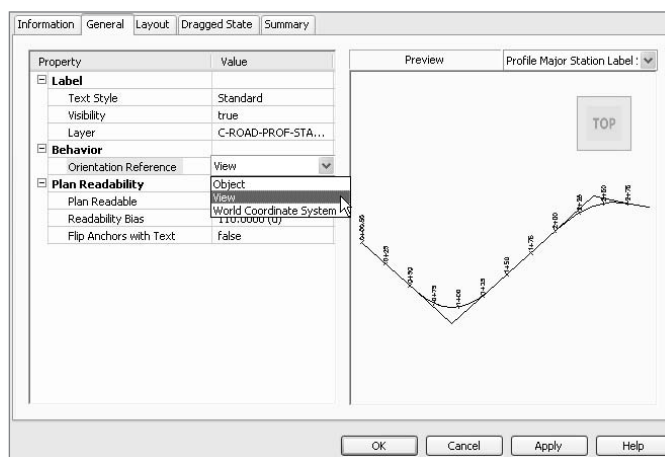

Figure A.65
7. On the General tab, change the value of the Orientation Reference to View, as shown in Figure A.65.